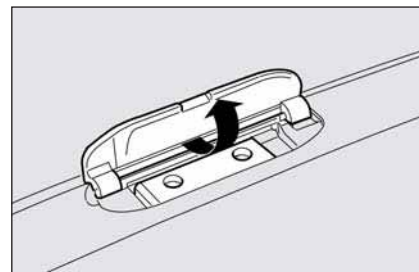

fig. 121
- ☐ for versions without sunroof: lift the tabs using the screwdriver provided in the kit to reach the fastening seats **fig. 121**;